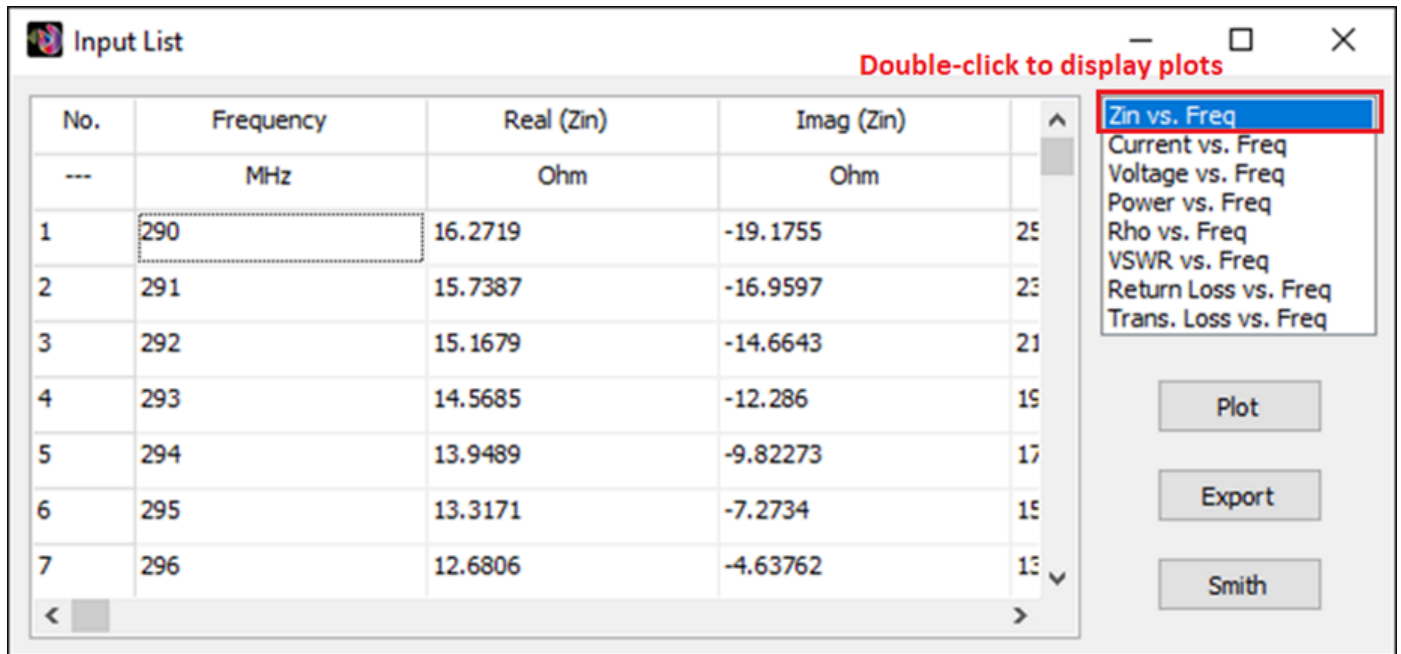

Fig. 3: The "Input List" dialog box.
- **Input List:** Enabled only if the selected segment contains a source. This dialog displays input impedance, currents, voltages, and powers (**Fig. 3**).